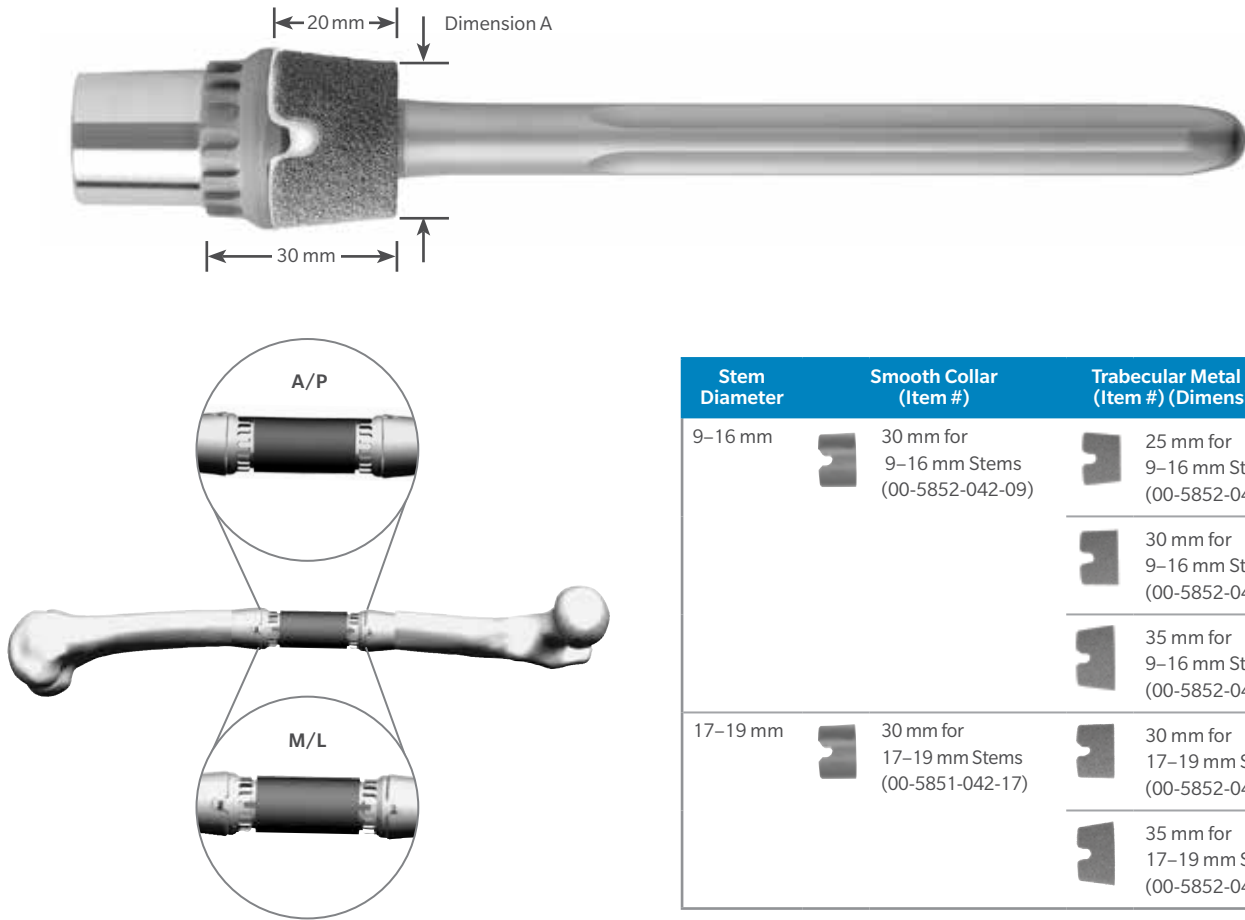

Figure 19
- ⓘ **Note:** Position the segment anteversion tabs in either the A/P or M/L direction to facilitate access for the segmental taper separator (Figure 19).